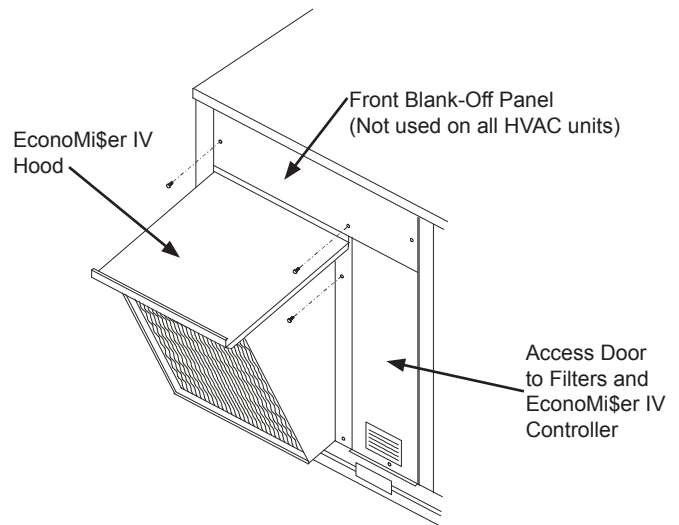

Fig. 12 - Front Blank-Off Panel Installation (Not on All Units)
16. On some units the EconoMi\$er and hood do not reach to the top of the unit. In this case a front blank-off panel must be installed. Install provided front blank-off panel above hood. Screw in place. (See Fig. 12.)